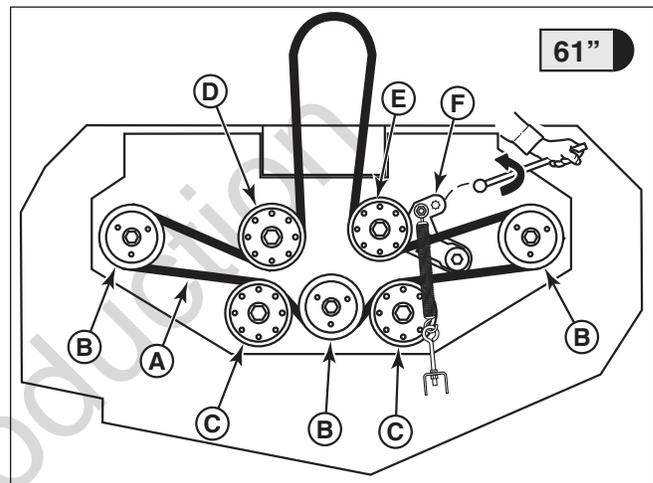

Figure 47. Mower Deck Drive Belt Routing - 61" Models (S/N: 2016953546 & Above)
3. Using a 1/2" breaker bar, place the square end in the eight-sided hole located in the end of the idler arm (F, Figure 47). Carefully rotate the breaker bar **counter-clockwise**, which will relieve the tension on the belt exerted from the idler arm.